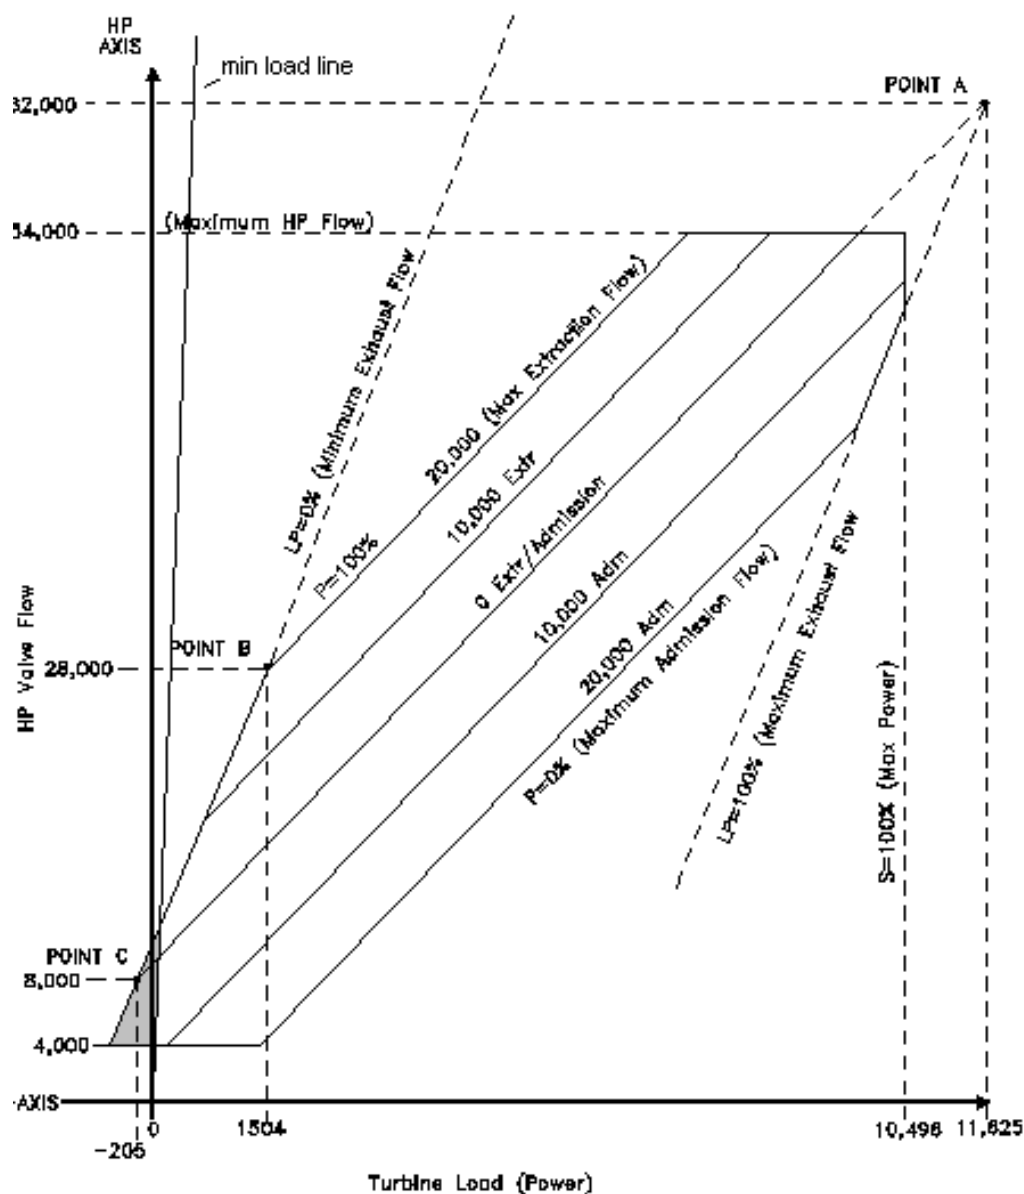

Figure 4-19. Typical Extraction & Admission Steam Map
Before a turbine admission steam map can be programmed into the control, it must have the intersection points A, B, and C, refer to Figure 4-19.
Your map will have to be modified to include points B & C if only point A exists. The LP=0 line will need to be created. To create the LP=0 line you must know the minimum required steam flow through the back-end of the turbine. In our example steam map, see Figure 4-19, the minimum required flow was 10,000 lbs/hr.
1. Extend the zero admission (or induction) line ($p=100\%$). Refer to Figure 4-19.
The nine values needed can be taken from the converted steam map. An example has been provided using the steam map in Figure 4-19.
Before a turbine's extraction/ admission steam map can be programmed into the control, it must have the intersection points A, B, and C, refer to Figure 4-19.
Your map will have to be modified to include points B and C if they do not exist. The LP=0 line will need to be created. To create the LP=0 line you must know the minimum required steam flow through the back-end of the turbine. In our example steam map, Figure 4-19, the minimum required flow is 8,000 lbs/hr.
1. Extend the maximum extraction line. Refer to Figure 4-19.
The ten values needed can be taken from the converted steam map. An example has been provided below, using the steam map in Figure 4-19: